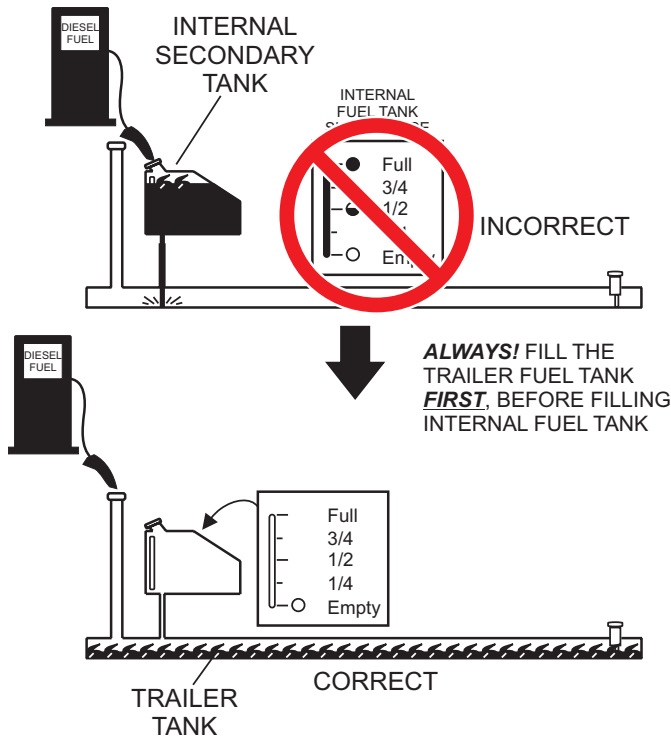

Figure 38. Fuel Tank Fill Order
2. **Fill the trailer fuel tank first.** The trailer fuel tank is the primary fuel tank and has a larger fuel capacity. The fuel in the trailer will be filtered and sent to the engine. **ALWAYS** fill the trailer fuel tank first (Figure 38).